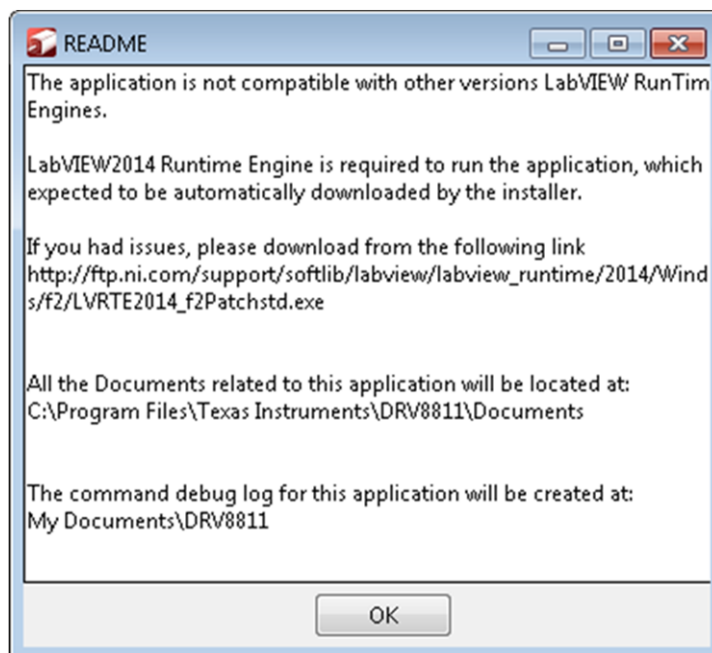

Figure 20. Readme Window
20. A Readme window as shown in Figure 20 appears displaying the link for LV 2014 RTE.